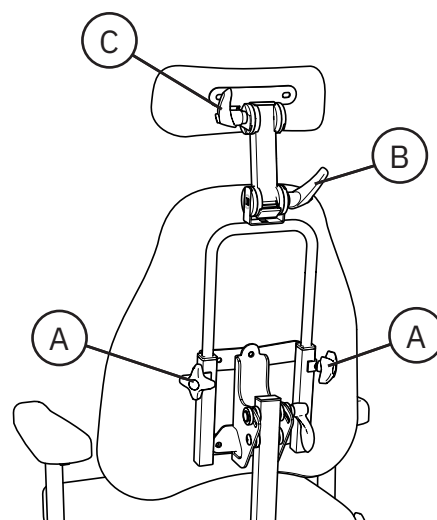

Figure 5.16. Neck support mechanism
The head rest is adjustable in height (A), depth (B) and angle (C), see Figure 5.16.